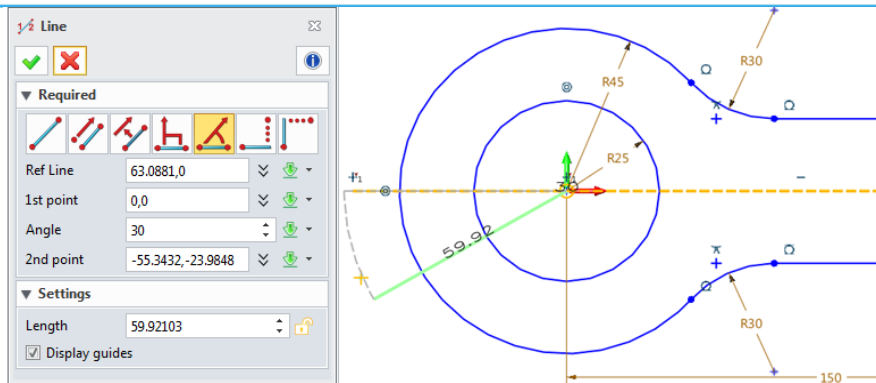

Figure 134 Creating a Line
STEP 08 Create a line that is 30 degrees from the horizontal line, as shown in Figure 134. Then, add the angular dimension to it and convert it into a construction line.